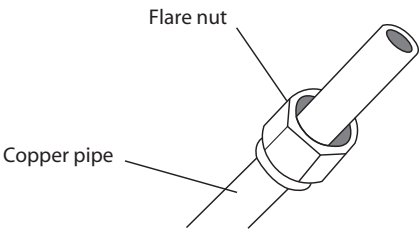

Fig. 7.3
- 3. Place flare nuts on both ends of pipe. Make sure they are facing in the right direction, because you can't put them on or change their direction after flaring. See Fig. 7.3